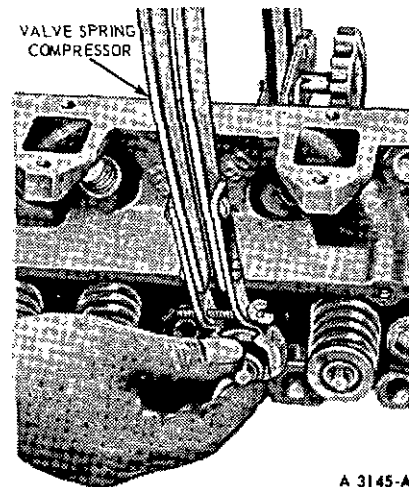

FIG. 62 Compressing Valve Spring-On Bench
3. Compress valve springs (Figure 62). Remove spring retainer locks and release springs. Remove retainers, springs, stem seals, and valves. Discard stem seals.
2. Set valve spring and retainer over valve stem. Compress spring (Figure 62) and install retainer locks.